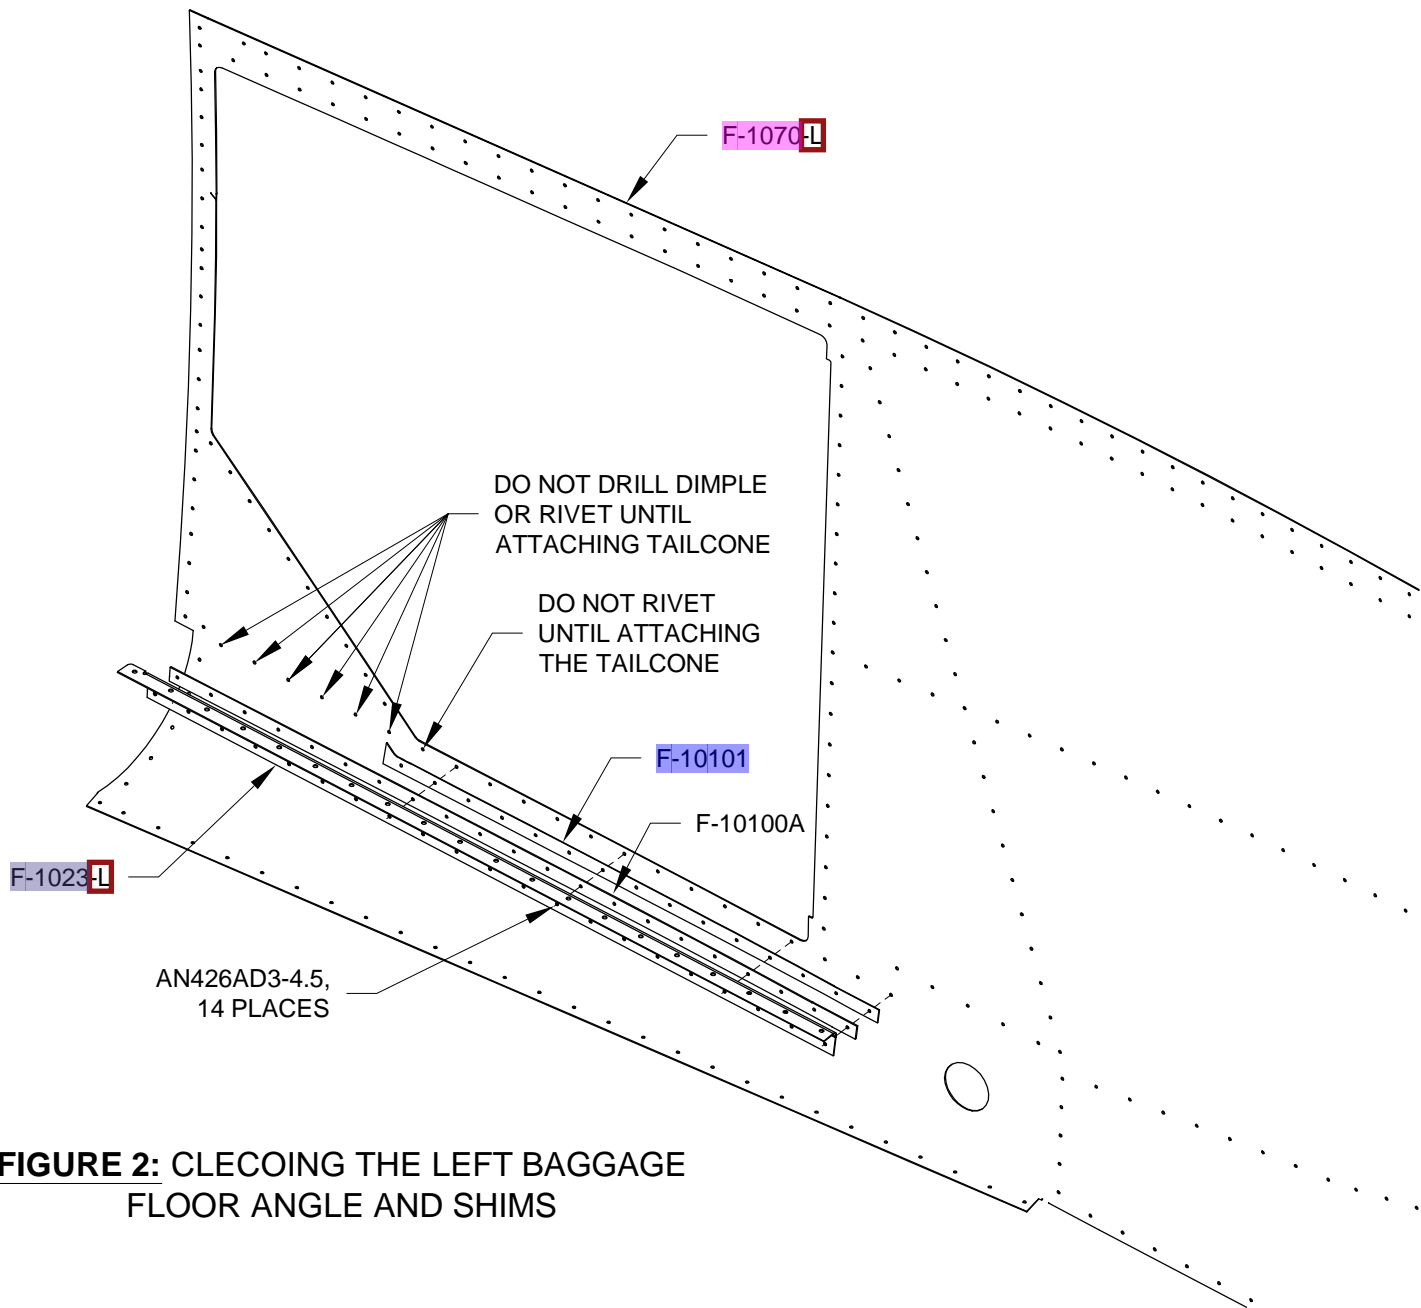

FIGURE 2: CLECOING THE LEFT BAGGAGE FLOOR ANGLE AND SHIMS
Step 3: Cleco the F-1023-L Baggage Floor Angle and F-10100A and F-10101 Baggage Door Shims to the F-1070-L Mid Side Skin as shown in Figure 2. Final-Drill #40 the holes common between these parts except the holes marked in Figure 2 do not drill.